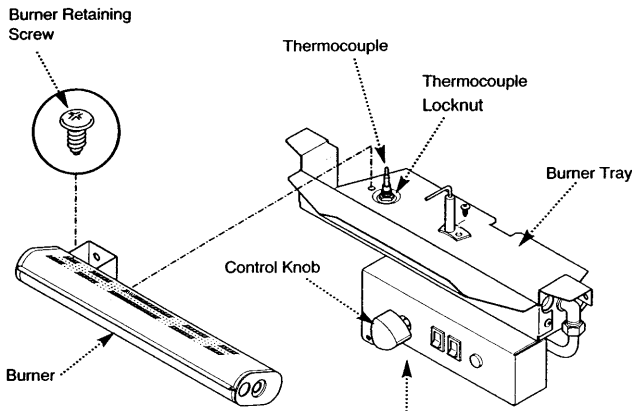

Fig. 68
5. Pull away the control knob (Fig. 68) from the gas valve shaft.